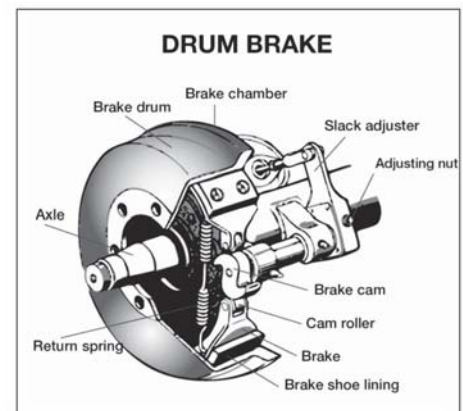

Figure 5.2
**S-cam Brakes:** When you push the brake pedal, air is let into each brake chamber. Air pressure pushes the rod out, moving the slack adjuster, thus twisting the brake camshaft. This turns the S-cam (so called because it is shaped like the letter "S"). The S-cam forces the brake shoes away from one another and presses them against the inside of the brake drum. When you release the brake pedal, the S-cam rotates back and a spring pulls the brake shoes away from the drum, letting the wheels roll freely again. (See Figure 5.2.)